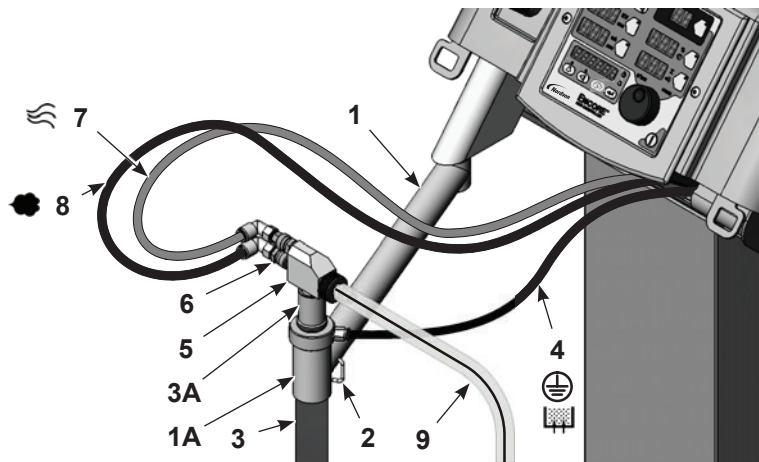

Figure 3-6 VBF System – Pickup Tube and Pump Installation
1. See Figure 3-6. Unpack the pickup tube (3).
2. Swing the pickup tube arm (1) out over the vibrator table, move the pickup tube catch (2) out of the way, then slide the pickup tube through the tube holder (1A).
3. Install the pump (5) into the pump adapter (3A) with a slight twisting motion.
- 8-mm blue atomizing air tubing (7) into the top tube fitting on the pump,
- 8-mm black flow air tubing (8) into the bottom tube fitting on the pump
- 6-mm black fluidizing air tubing (4) into the tube fitting on the pick-up tube.
**NOTE:** The pump is equipped with quick-connect couplings (6). Pull back on the knurled coupling rings to uncouple them.
5. Connect one end of the powder hose (9) to the pump.